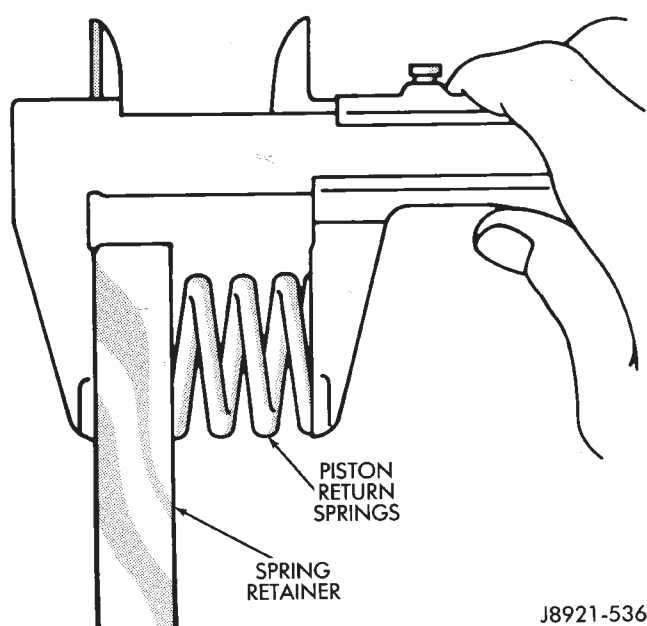

Fig. 9 Checking Piston Return Spring Length
(14) Measure free length of piston return springs with springs in retainer (Fig. 9). Length should be 21.32 mm (0.839 in.). Replace return springs if not within specification.